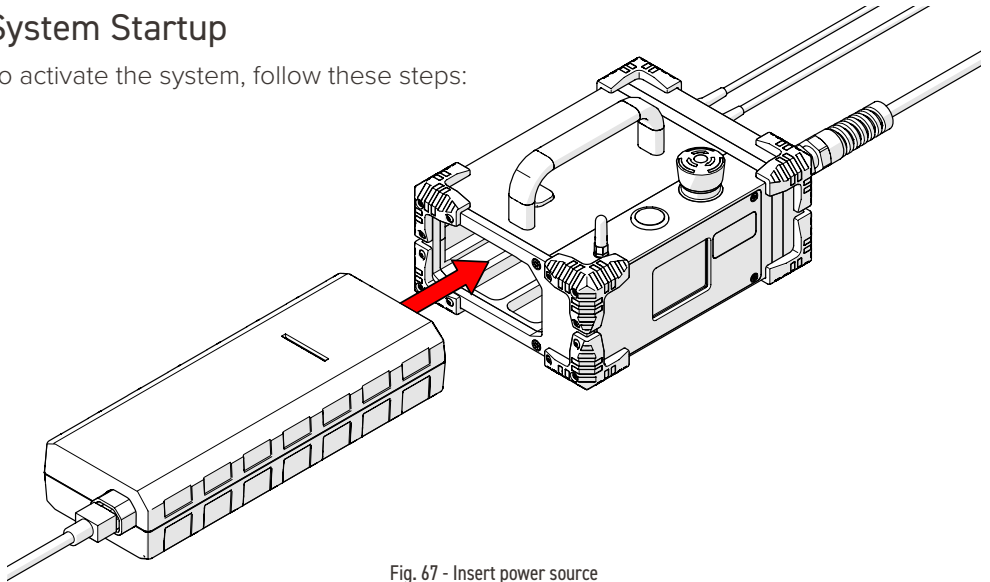

Fig. 67 - Insert power source
1. Insert the power source (Fig. 67) into the system controller dock.